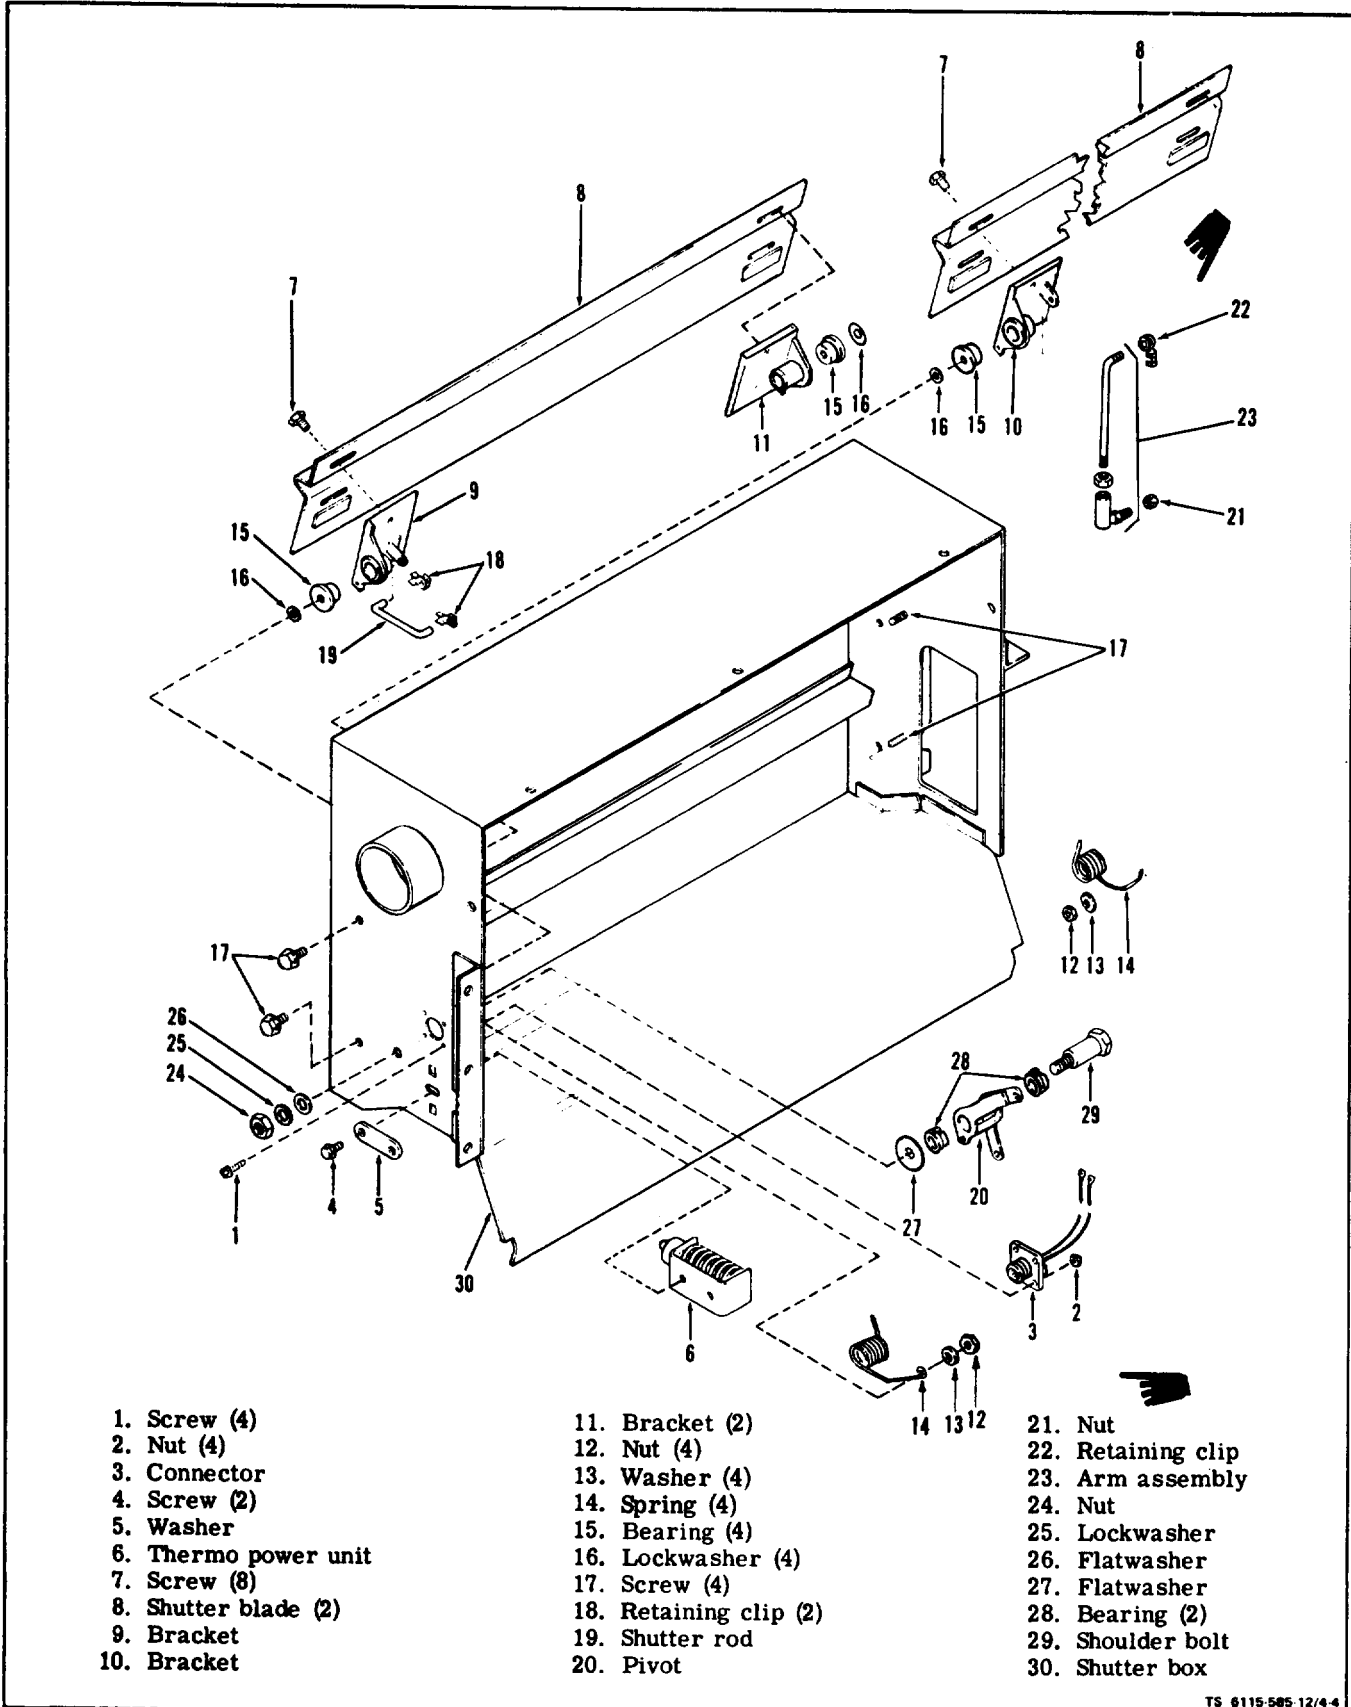

Figure 4-4. Shutter Assembly
(1) Inspect the engine fins and the housing assemblies for debris and remove as necessary. Clean using detergent, clean cloth and brush.
(2) Disconnect leads and remove high temperature cutout switch from cylinder head. Check continuity between two terminals while heating switch with its mounting stud submerged in oil. When the temperature of the oil reaches  $394 \pm 10^\circ\text{F}$  ( $201 \pm 5^\circ\text{C}$ ) the switch should open. Switch should close when temperature drops below  $394 \pm 10^\circ\text{F}$  ( $201 \pm 5^\circ\text{C}$ ). If switch does not perform as indicated, replace.
d. Disassembly of Shutter Assembly (see figure 4-4).
(1) Shutter Thermo Power Unit Assembly. Remove electrical connector (3) by removing screws